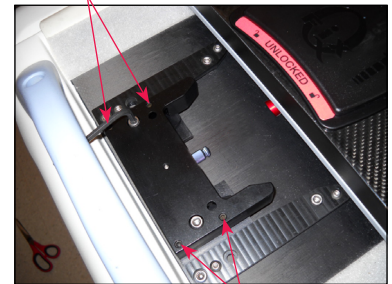

Fig. 35
- b. Adjust the height of the Mounting Block using the (4) Elevation Set Screws (found on the mounting block) using the ⅛ in. Allen Wrench (Fig. 35).
- d. Lock the Foot Latch Mounting Block by tightening the (2) ¼-20 x 1 Locking Screws using ⅜ in. Allen wrench.